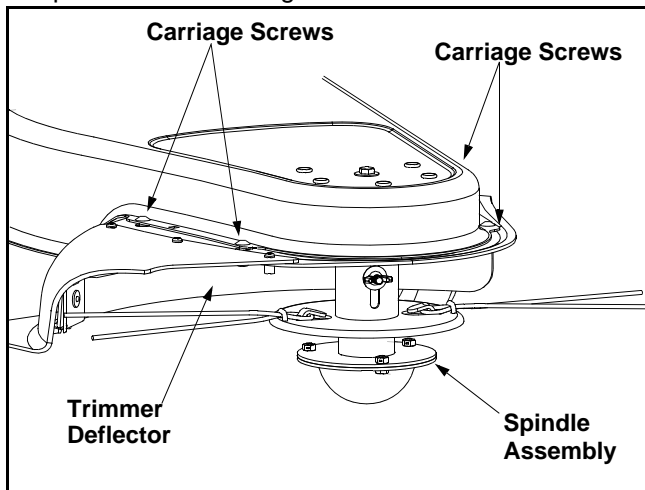

Figure 9
- Remove carriage screws, washers, and hex nuts that secure the trimmer deflector to the base. See Figure 9.